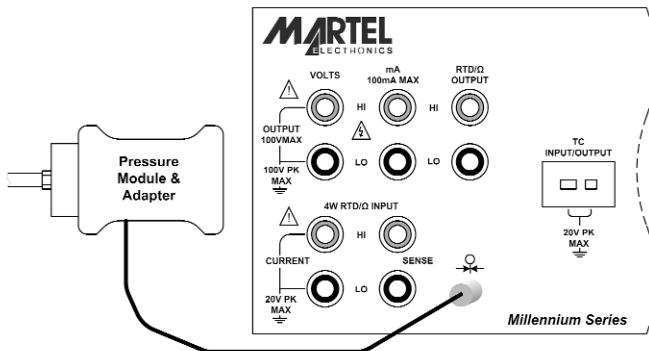

Figure 16 - Pressure Module Connection
- a) Connect the pressure module to the 3001 as shown in figure 16.